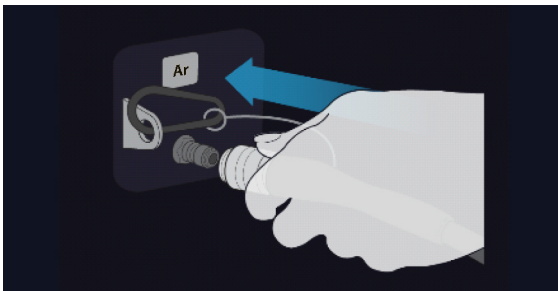

Figure 10. Connect Argon Gas Supply Line
4. Connect the argon high-pressure gas supply line to the argon inlet of the Console using the quick-connect connector located at the rear of the Console (see Figure 10).